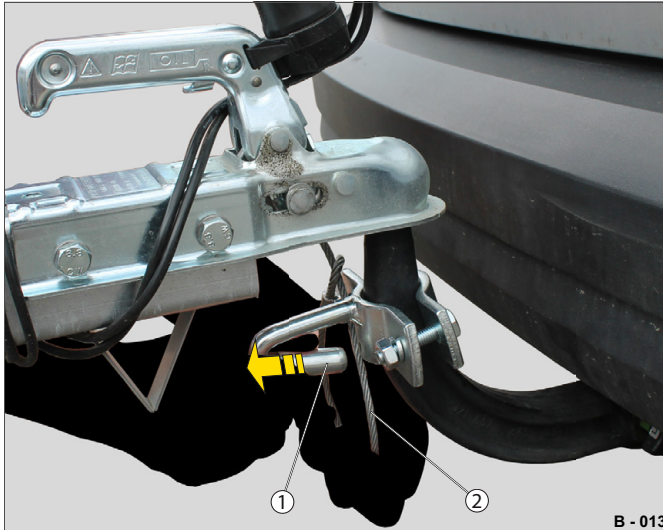

Fig. 11 Attaching arrester cable
- Pull on the locking mechanism (Fig. 11 /1) of the clamping device while at the same time forming a loop with the arrester cable (Fig. 11 /2).